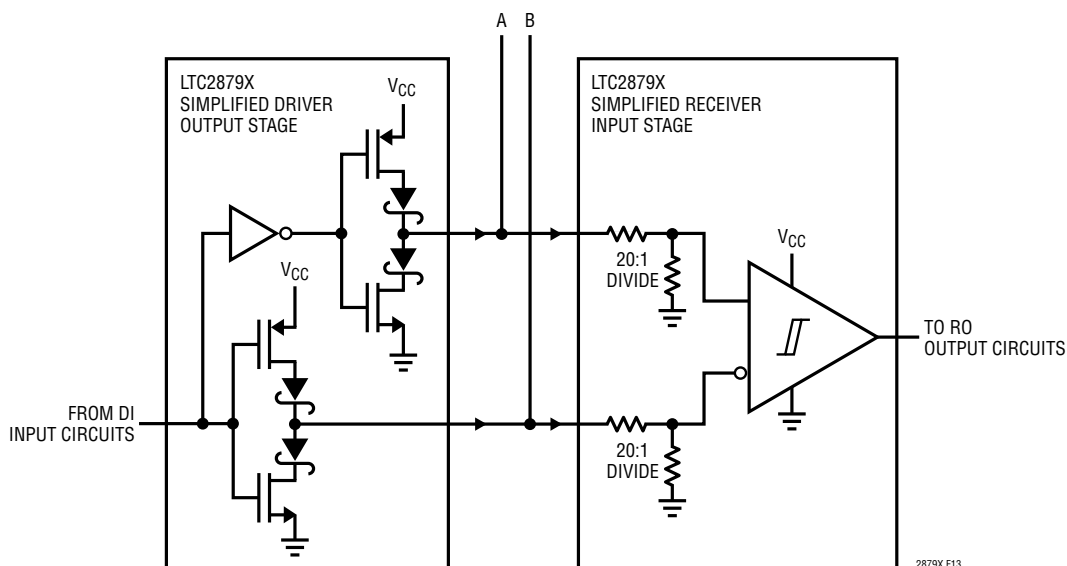

Figure 13. Internal Circuit Structure at A/B Pins that Tolerates Large Positive and Negative Voltages
The LTC2879X A and B pins can be safely shorted to voltages as high as $\pm 60V$. This extreme level of fault protection is achieved by using a high voltage BiCMOS integrated circuit technology. The naturally high breakdown voltage of this technology provides protection in powered off and high impedance conditions. Figure 13 further illustrates how the driver and receiver inputs tolerate large voltages above the supply and below ground
3.3V-powered LTC2879X devices can be mixed with other RS485 transceivers running from 5V on the same network. There is no concern for the higher voltage of a 5V node overdriving the 3.3V node due to the overvoltage-tolerant design of the LTC2879X, as illustrated in Figure 13.